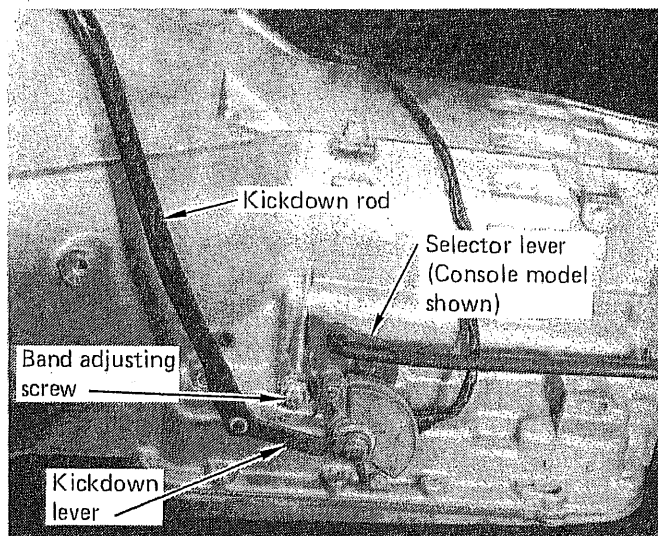

FIGURE 1
STEP 2. Manually operate the kickdown rod from the carburetor with the gas pedal depressed half way. (See Fig. 1) Note how it moves freely with no bind. Observe how the internal linkage engages the valve body. Note: Some '75 models may have a slightly different oil filter than pictured.
STEP 4. Adjust the front band. Loosen the outer jam nut with a 13/16" wrench. (See Fig. 1) Tighten the band adjusting screw to 120-in. lbs and back off 1-1/2 turns. Hold the band adjusting screw in this position and tighten the jam